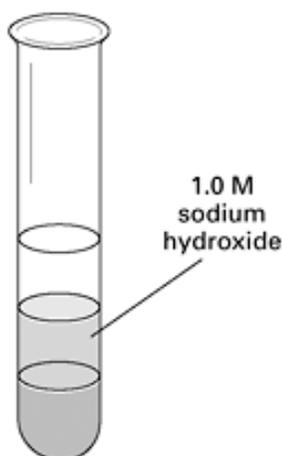

Figure 2
5. Add 1.0 M sodium hydroxide (NaOH) up to the second mark on the test tube, as shown in **Figure 2**. Record your observations of the changes that occurred in the Data Table in the observations section of your lab report. If you need more room, additional observations can be recorded underneath the Data Table